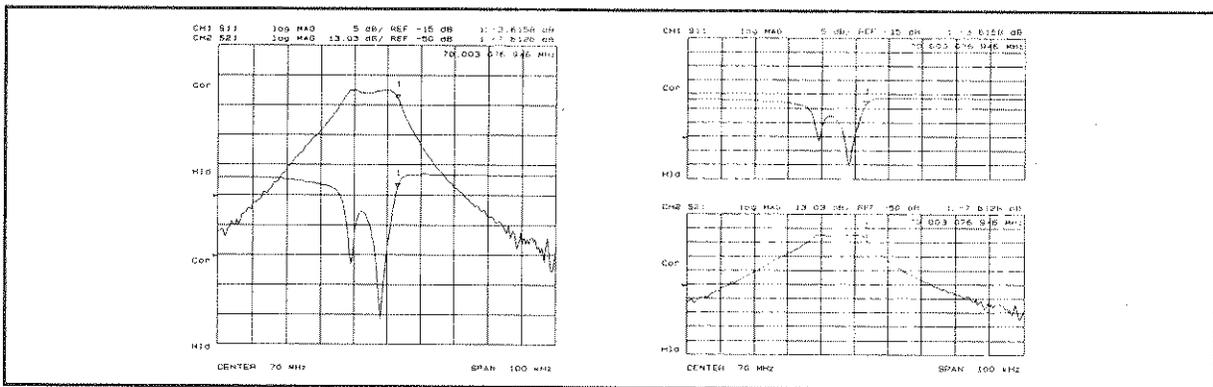

Figure 6-31. Full-screen and Split Display
**SPLIT DISP on OFF (SPLDON, SPLDOFF)** toggles between a full-screen single graticule display of one or both channels, and a split display with two half-screen graticules one above the other. Both displays are illustrated in Figure 6-31. The split display can be used in conjunction with **DUAL CHAN ON** to show the measured data of each channel simultaneously on separate graticules. In addition, the stimulus functions of the two channels can be controlled independently using **COUPLED CH OFF** in the stimulus menu. The markers can also be controlled independently for each channel using **MARKERS: UNCOUPLED** in the marker mode menu.